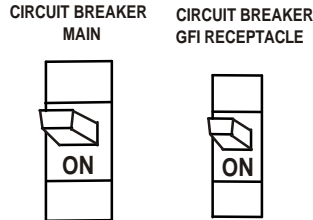

Figure 31. Main and GFCI Circuit Breakers
19. If there are no abnormal problems shown on the "Alarm Annunciator" LED display, turn both the MAIN and GFCI circuit breakers to their ON position (Figure 31).